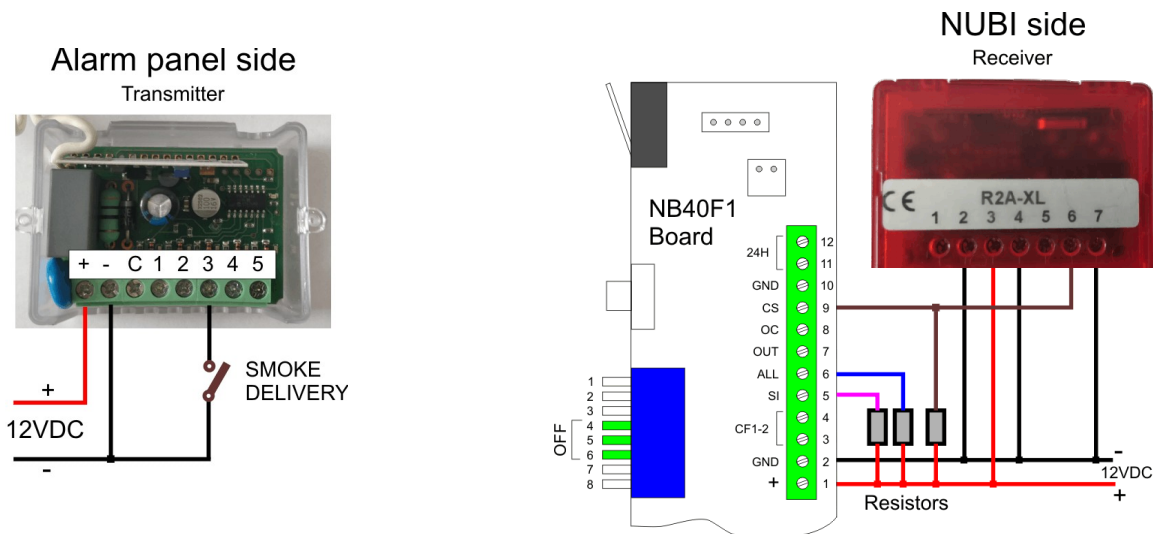

Figure 2
- Figure 2 shows the wiring to use the immediate smoke delivery command.